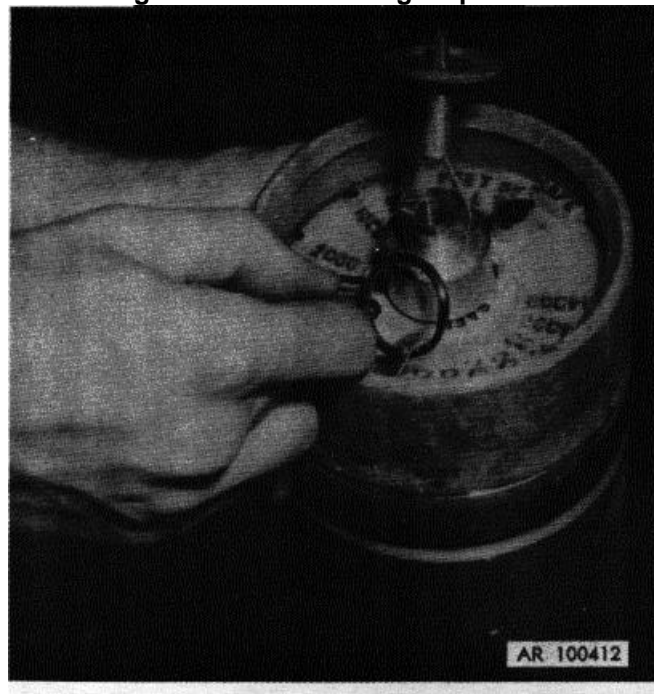
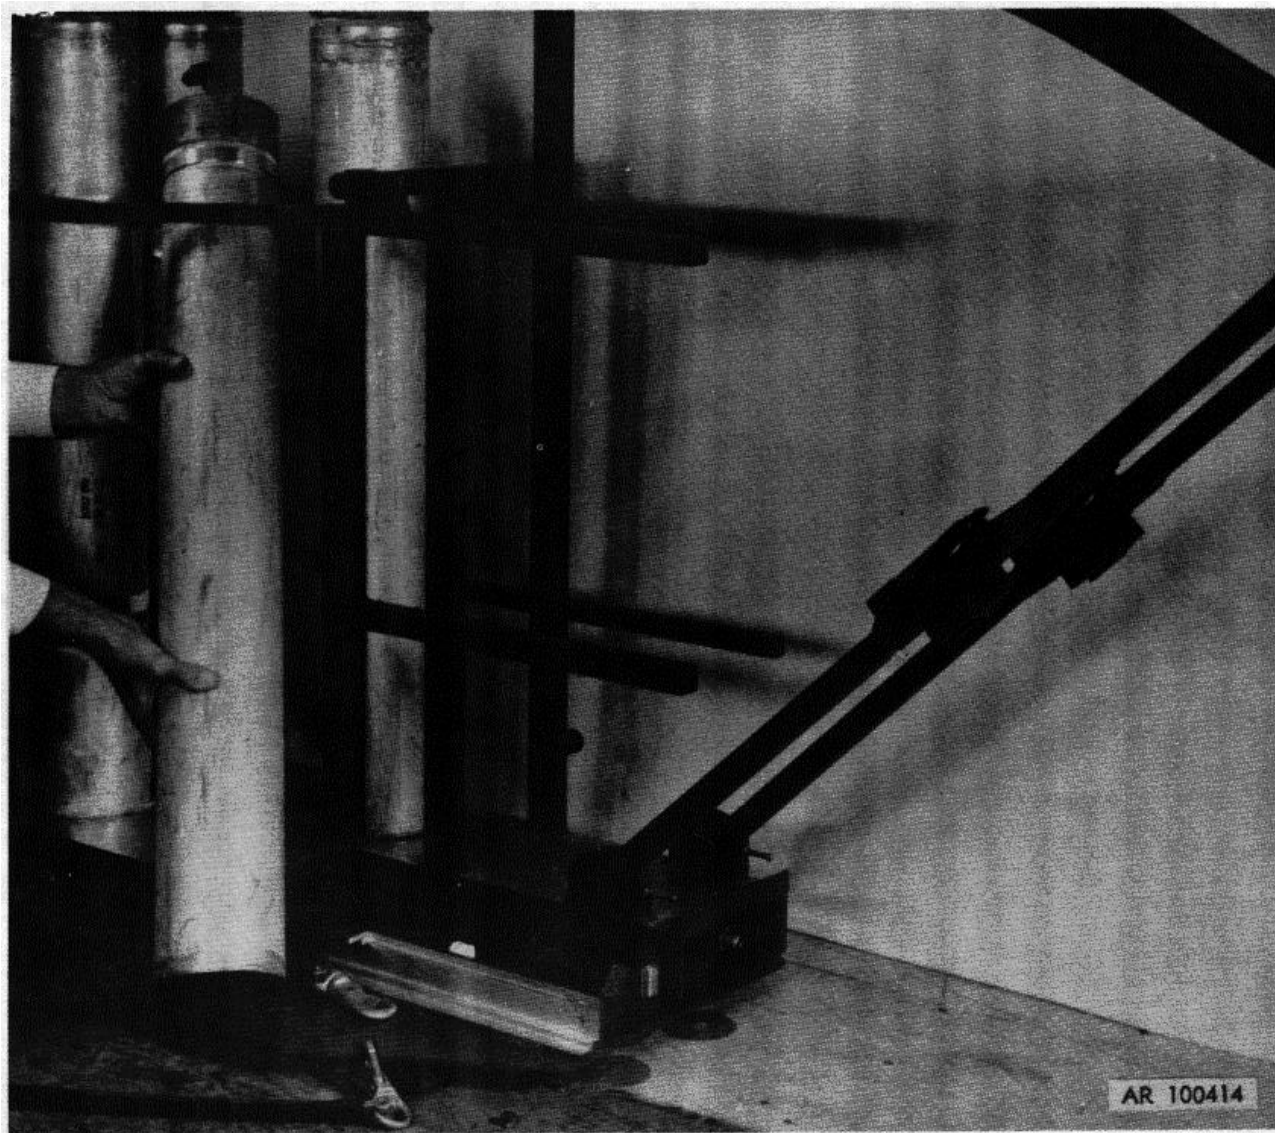

Figure 2-13. Reinstalling safety pin.
Figure 2-15. Removing flare from dispenser assembly
(1) Lock dispensing gate to retain flares not used on mission.
(2) Just before landing, rotate bail back under handle of firing device and turn safety valve handle to SAFE position.
(3) After landing, remove loading gate.
(4) Assure that a safety pin is present in each flare (fig. 2-13).
(5) Remove flares from dispenser assembly and turn ejection dial indicator counterclockwise to SAFE position. Examine flares for damage. Contact authorized disposal personnel for disposal of damaged flares.
(6) Repack serviceable flares in containers. Replace tape on containers. Use repacked flares first in subsequent launchings.
(7) Replace loading gate.
(2) Assure that a safety pin is present in each flare (fig. 2-13). Tilt top of flare rearward and remove flare through emergency release opening (fig. 2-15).